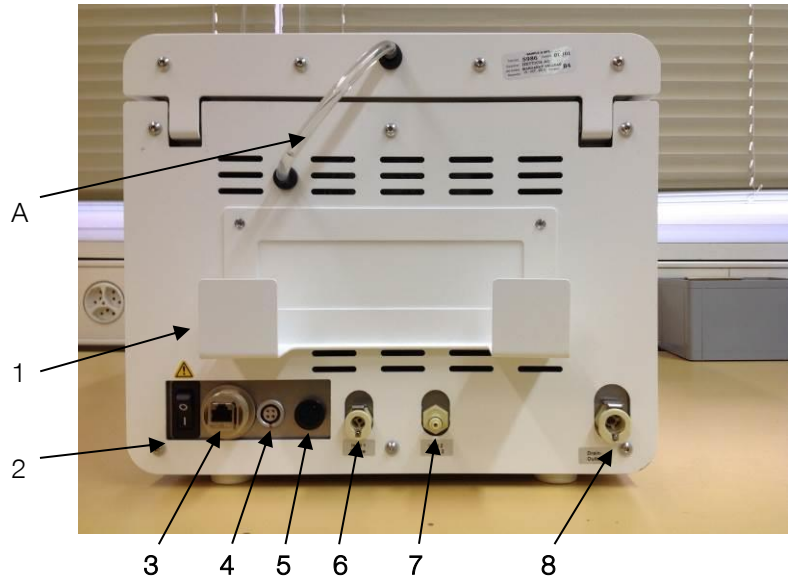

figure 7.1
If the storage environment was outside the working environment, then you must allow the device to acclimatise to the new environment for 24 hours without connecting to the power (fig. 7.1 pos. 4)
Please observe chapter 3 before starting the installation. Install the power supply in its mounting bracket on the rear side, see fig. 7.1 pos. 1 and plug the connector to the DC input, pos. 4 on the fig. 7.1. Plug the provided main power cable into the power supply and the other side to the power source.
Plug the connector from the fill hose to the inlet 1 on the rear side, see on fig. 7.1 pos. 6, and dip the other side with the metal-part into the container with the saline solution.
If your device has the optional inlet 2, plug the connector from the fill hose 2 to the inlet 2 on the rear side, see on fig. 7.1 pos. 7, and dip the other side with the metal part into the container with the fluid 2 solution.
If you are working with the optional PC software for the history, you must install a patch cable, cat. 5a or higher, to the Ethernet interface, see on fig. 7.1 pos. 3, and the other side of the local interface or directly to a computer. Refer also to the separate manual for that software.
Plug the connector from the drainage hose to the outlet on the rear side, see on fig. 7.1 pos. 8, and put the other side into the waste.
Push the ON / OFF main switch, fig. 7.1 pos. 2, to the ON position. The start initialization needs approx. one minute.